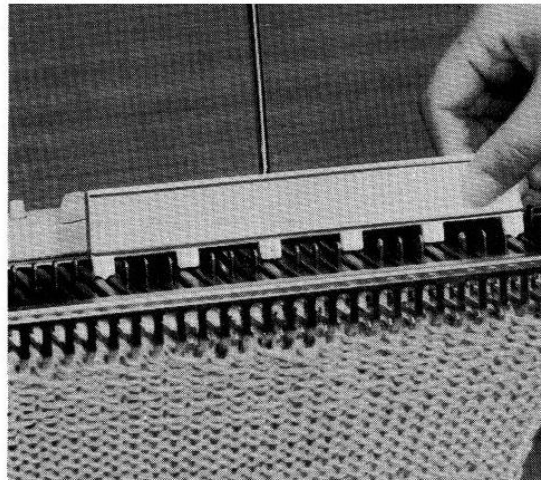

Fig.94
Then, with the teeth of the selector plate return into position (B) every 4th needle leaving other needles in position between (B) and (D). (Fig.94)